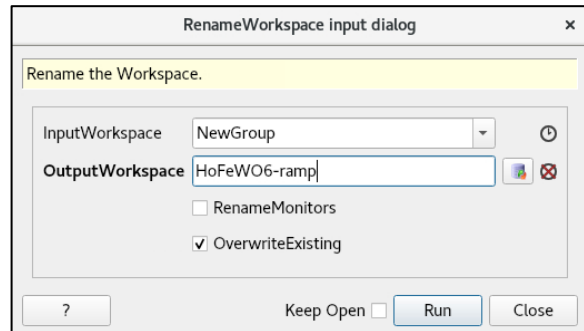

Figure 7. RenameWorkspace input dialog box.
- 2.4.3. Right-click on the *NewGroup* and select *Rename* to give it a meaningful name (Figure 7).